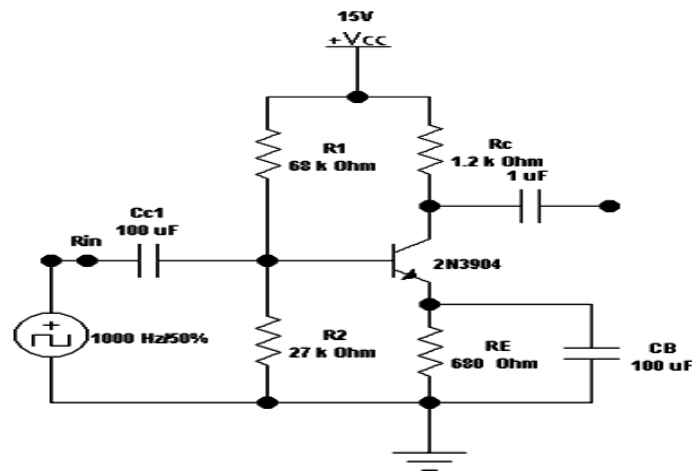

Figure 2: Common Emitter Amplifier
1. Utilizing the kit, make the connections according to Figure 2 using the Bypass circuit that is capacitor C_2 should be connected through emitter resistor R_E .